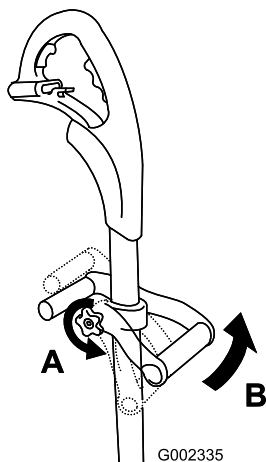

Figure 1
1. Loosen the knob, then move the assist handle up or down the shaft to your desired height (Figure 1).
2. Pivot the assist handle to a comfortable position (Figure 1), then tighten the knob.